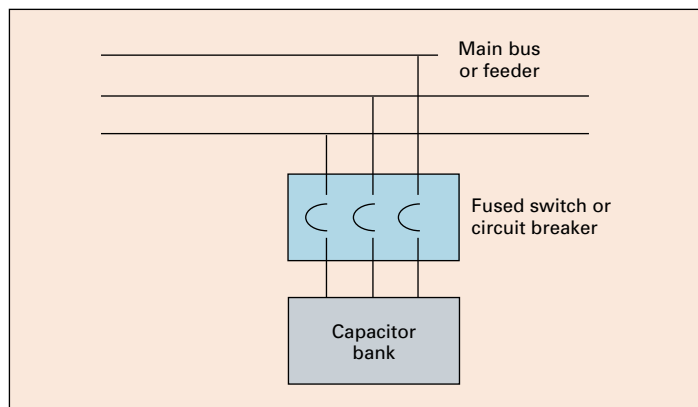

Figure 10. Installing capacitors online
**Figure 10** through **Figure 16** and the information below to determine which option is best for each motor.